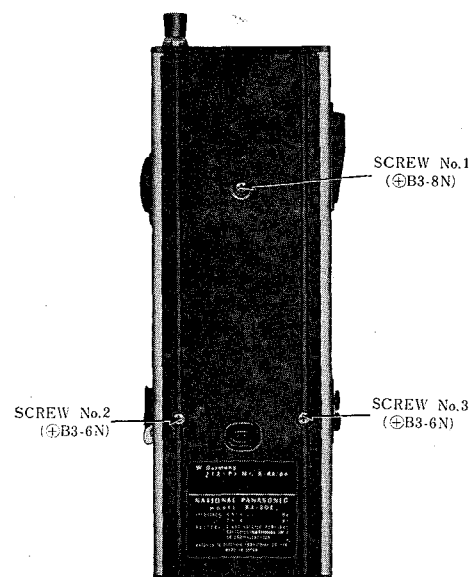

Fig. 2
### To Remove Chassis (Refer to Fig. 2, 3 & 4)
3. Remove three (3) cabinet back cover mounting screws, Nos. 1~3, as illustrated in Fig. 2.